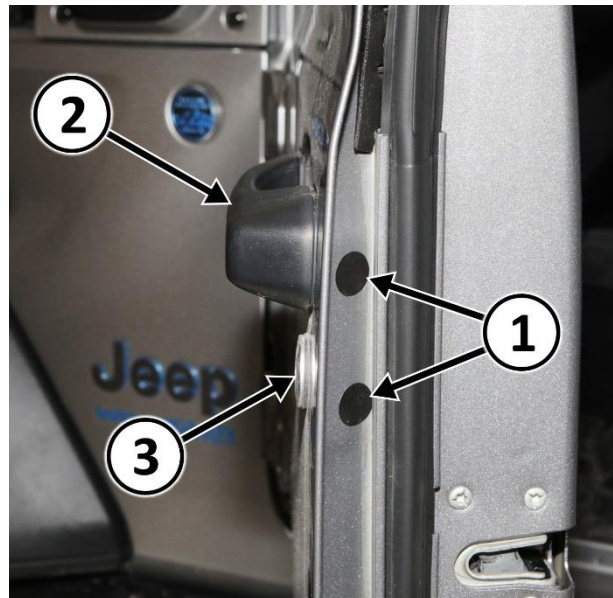

Figure 10 – Protective Tape
17. Remove the two circular pieces of protective tape (1) used to cover the door handle (2) and lock cylinder (3) slide plate screws (Figure 10). **Do not discard, place tape in a clean location for reuse.**
56. Install the two circular pieces of protective tape (1) used to cover the door handle (2) and lock cylinder (3) slide plate screws (Figure 10).